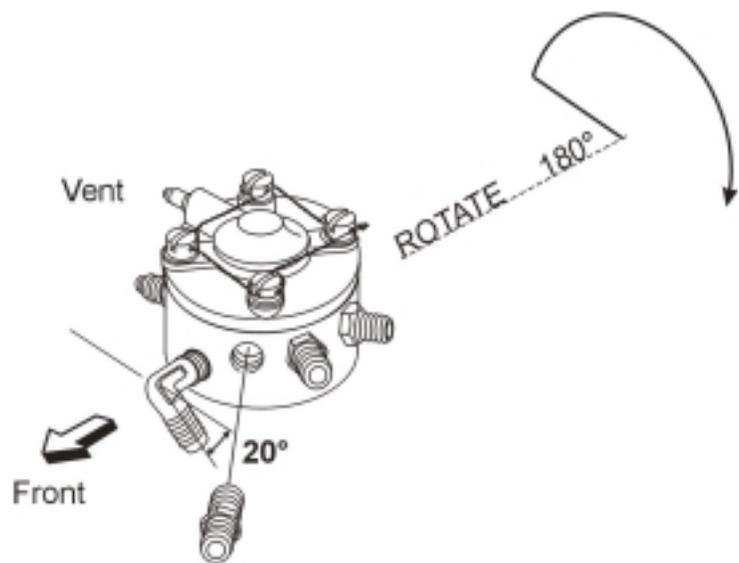

Figure 2.
- d. To allow removal and installation of the 90° fuel inlet elbow, first remove the fuel gage fitting close to the elbow on the forward side of the flow divider. (Figure 2.)
- e. Holding the flow divider with the manifold cap up, remove the 90° elbow P/N MS20822-4 and install the new 90° elbow with the elbow positioned below the gage fitting port pointed left and tilted approximately 20° below horizontal. Reinstall gage nipple. The angle allows clearance for hose connections. Before reinstalling the fittings, apply Loctite Hydraulic Sealant or an equivalent fuel soluble sealant sparingly. Do not apply sealant to the first two lead threads. (Figure 2.)